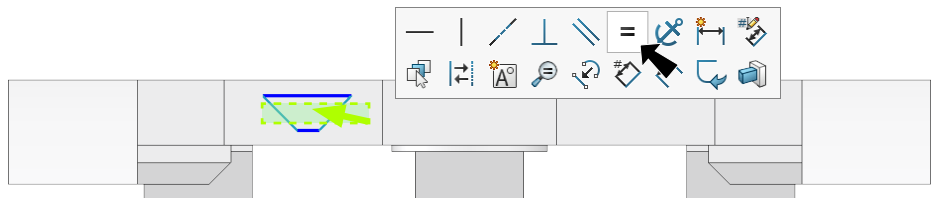

Fig. 79
Step 6. **Drag a selection to left to select both legs** and click **Make Equal**  on the context toolbar, **Fig. 79**.